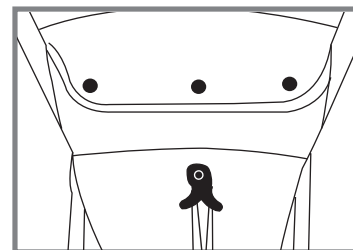

Fig. 8B
14. Snap the three back buttons located on the back of the seat, as shown in Fig. 8B.